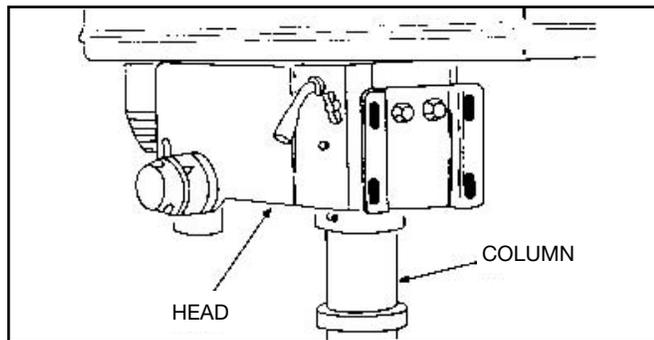

FIGURE 10
1. Remove protective bag from head assembly and discard. Carefully lift head above column tube and slide it onto column making sure head slides down over column as far as possible. Align head with table and base. See figure 10.